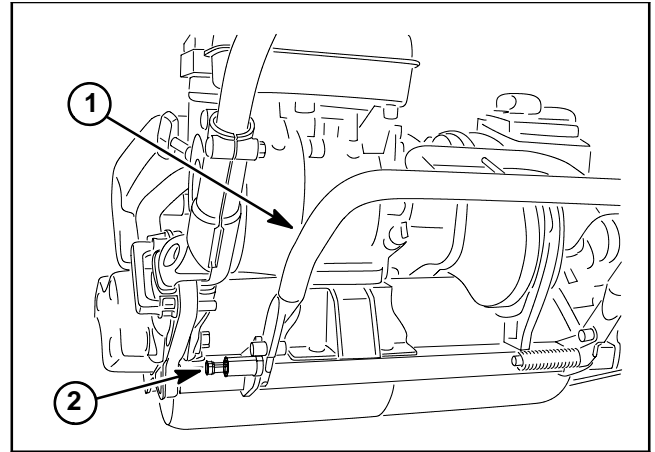

Figure 2
2. Lower the kickstand and push in the locking pin to lock the kickstand in the service position (Fig. 2). Allow the kickstand and machine to rest against the locking pin.